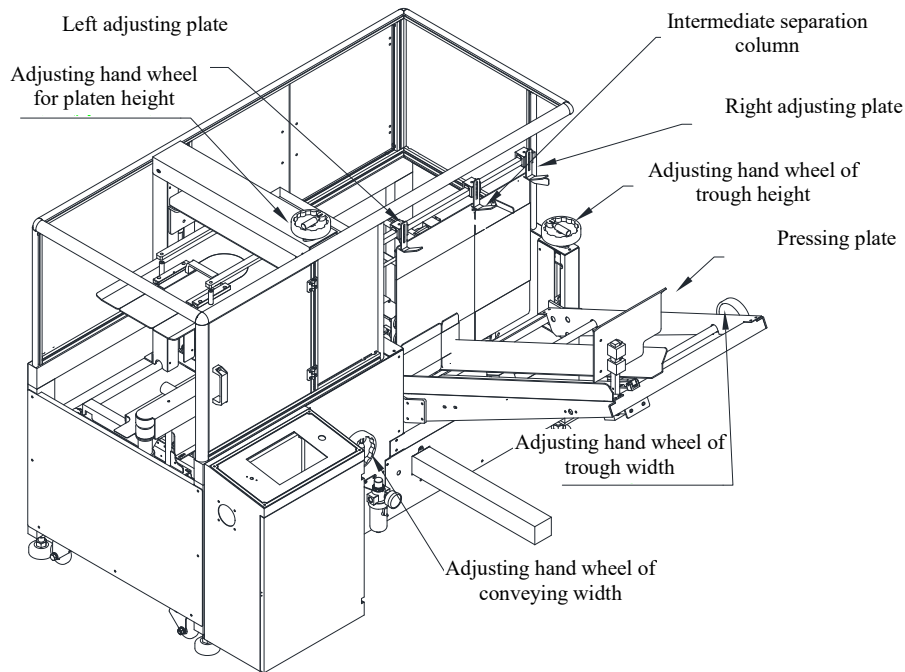

Figure 4
4) Take a folded carton, place it with the lower edge of the stop block as a benchmark, adjust the height and width of the trough to make them be equal to the height and width of the unmolded carton respectively. As shown in Figure 4: